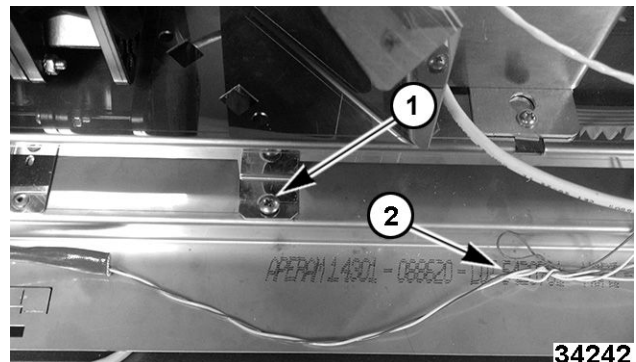

Fig. 6
4. Remove screw (1, Fig. 6) securing drawer.
5. Move door light wire (2, Fig. 6) out of the way and pull the drawer forward.